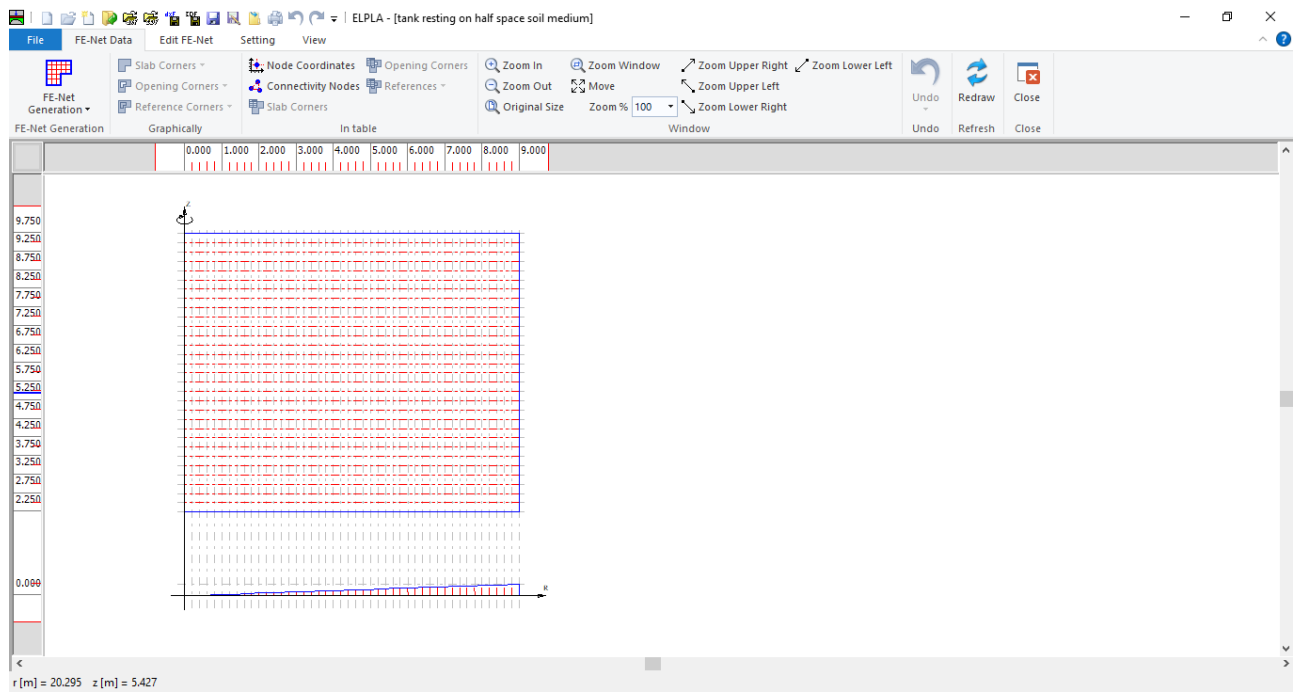

Figure 8.11 Generated FE-Net
Click "Finish" button, the FE-Net of the tank wall and a sector from the base appears in Figure 8.11.
- Choose "Save" command from "File" menu in Figure 8.11 to save the data of the FE-Net
- Choose "Close" command from "File" menu in Figure 8.11 to close the "FE-Net" window and return to *ELPLA* main window